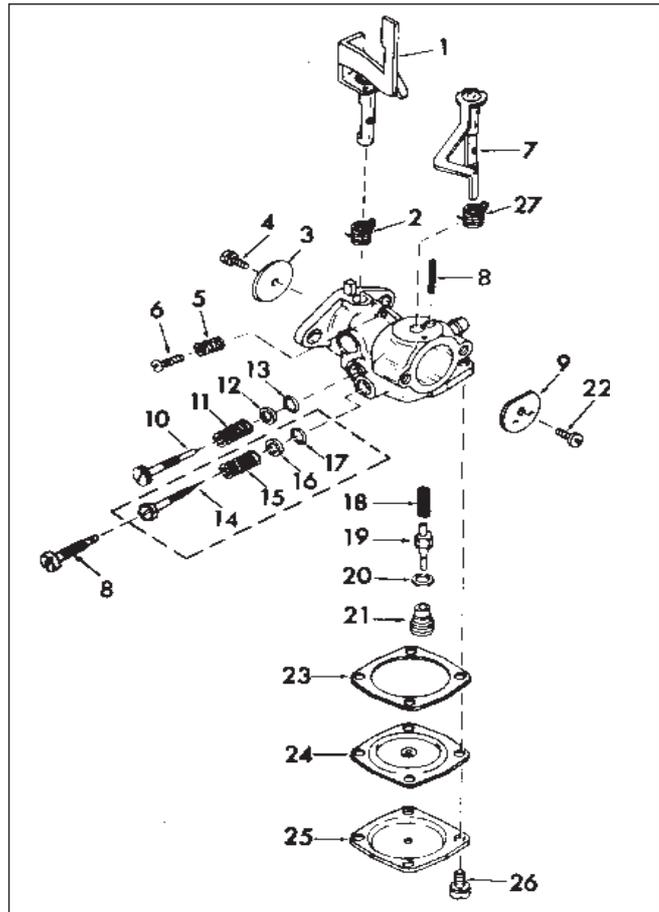
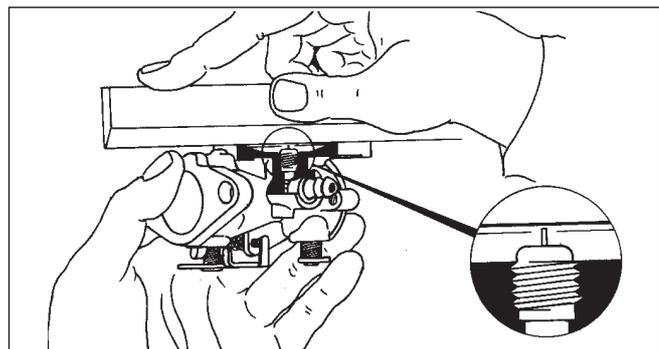

Fig. 5
Fig. 7
To clean carburettor (Fig 5), proceed as follows:
- Reassemble, referring to Fig 5, making sure that valve (**21**) and needle (**19**) are not damaged or bent. The needle (**19**) should protrude approximately level with the carburettor face, (Fig 7). If needle is sunk, this denotes that gasket (**20**) has not been fitted or that the needle is worn. If needle projects, it is possible that two washers have been fitted.